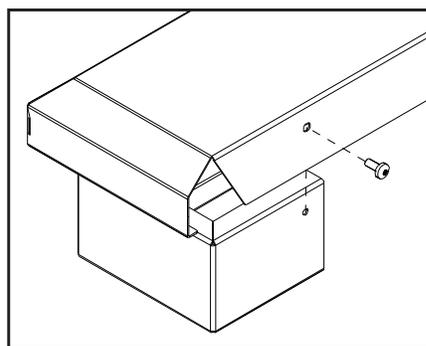

Figure 39: Installing Base Shelf onto Riser.
3. If installing with riser(s) the Base Shelf is to be fastened to the riser(s) with one T-20 screw at each end of the back (see Figure 39).